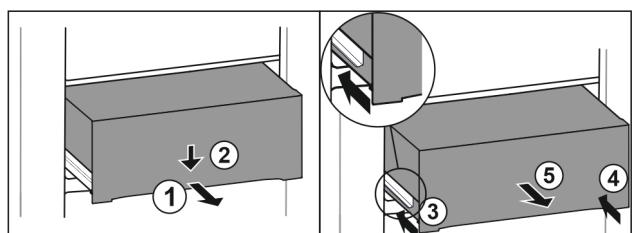

Fig. 113
- ▶ Pull out drawer half-way. Fig. 113 (1)
- ▶ Push the drawer down at the front. Fig. 113 (2)
- ▶ Push the left rail in by about 2 cm. Fig. 113 (3)
- ▶ Push the right rail in by about 2 cm. Fig. 113 (4)
- ▶ Remove drawer to the front. Fig. 113 (5)